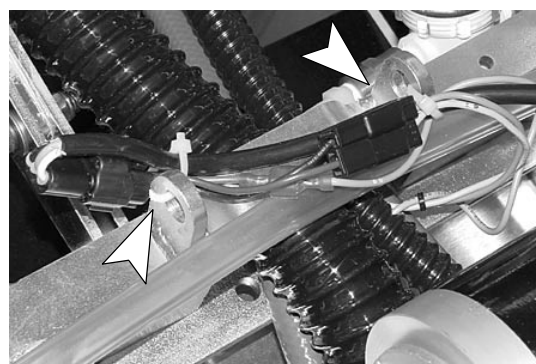

Fig. 15
7. Secure the transaxle wiring to the metal frame tabs using two wire-ties supplied with kit (Figure 15).